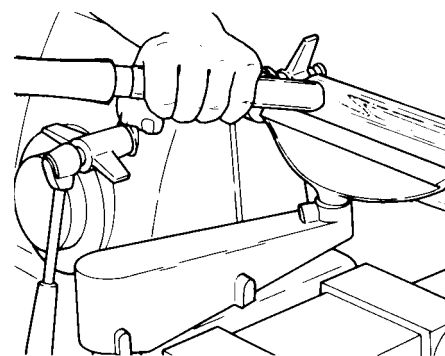

Figure C-44
- d. Feed the gouge into the stock and draw it back along the tool rest. Repeat this procedure until the stock is completely round. See Figure C-44. Turn off the Mark V.